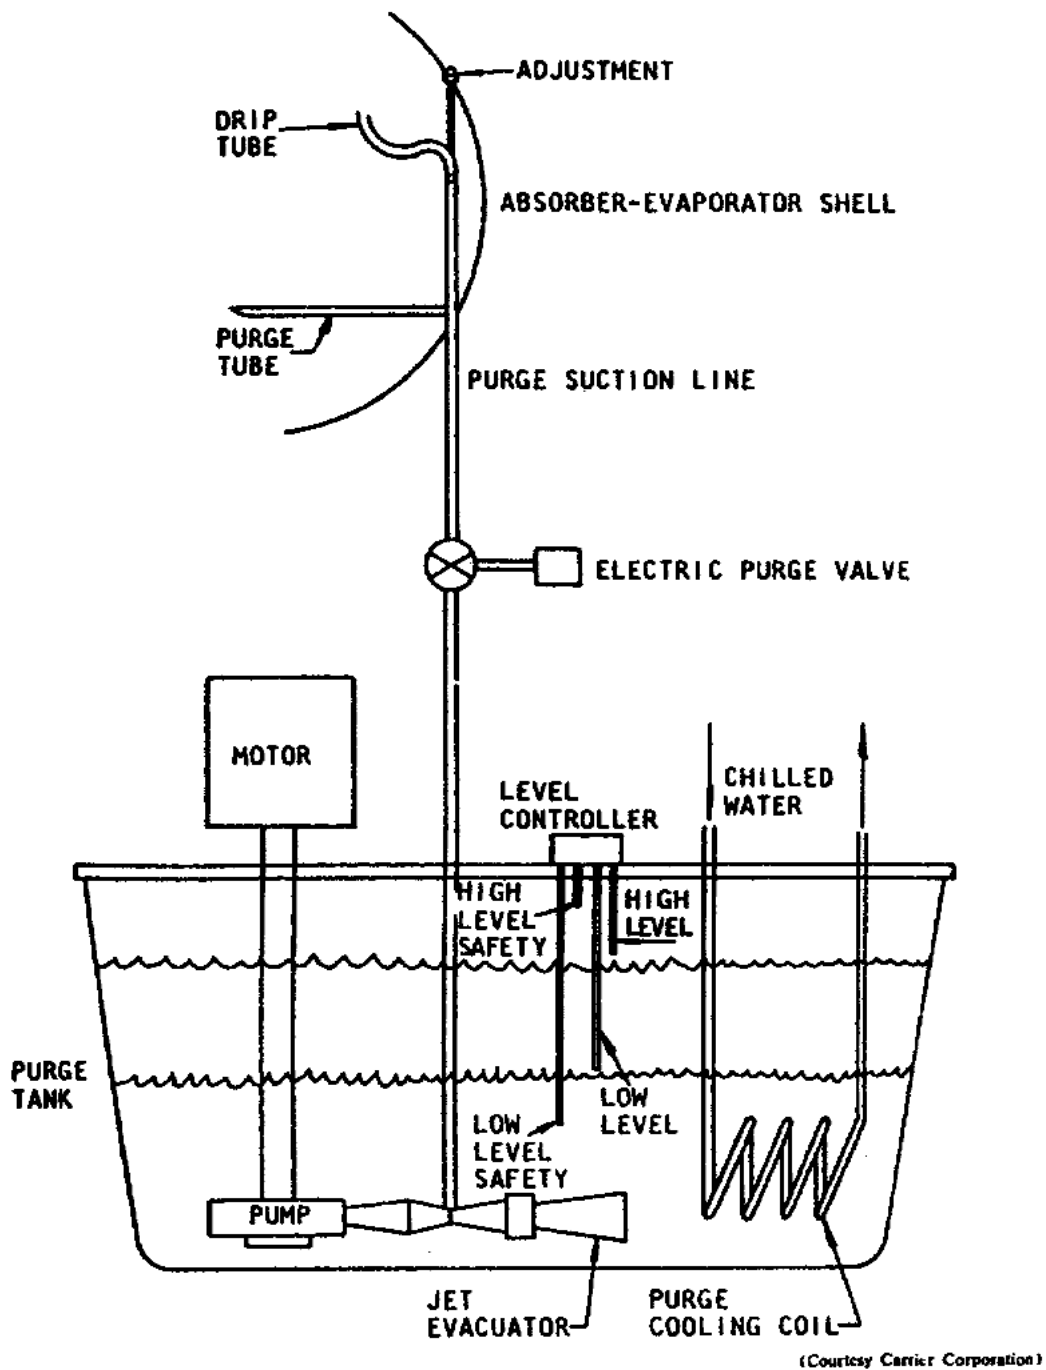

Figure 31. Jet purge unit.
8. *Jet purge.* On some systems, the jet purge, shown in figure 31, has been adapted to the unit. It is entirely automatic and provides a source of very low pressure which is capable of removing noncondensables from the machine when required. Since noncondensables travel from high-pressure regions to low-pressure regions-generator, condenser, evaporator, absorber--the purge suction tube is located in the lower